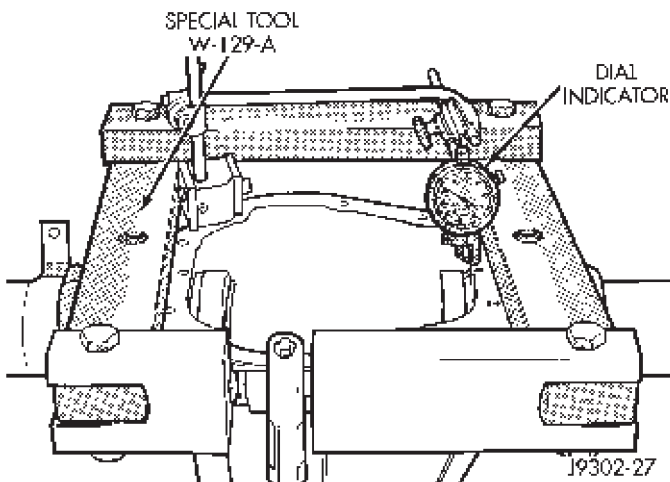
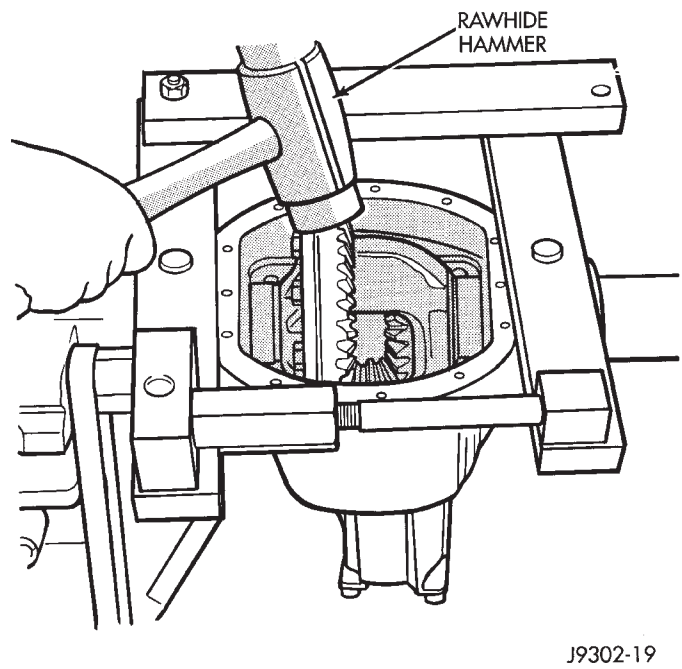

Fig. 62 Spread Differential Housing
Fig. 63 Differential Installation
(1) Position Spreader W-129-A with the tool dowel pins seated in the locating holes (Fig. 62). Install the holddown clamps and tighten the tool turnbuckle finger-tight.
(2) Install a pilot stud at the left side of the differential housing. Attach Dial Indicator to housing pilot stud. Load the indicator plunger against the opposite side of the housing (Fig. 62) and zero the indicator.
(3) Separate the housing enough to install the case in the housing. Measure the distance with the dial indicator (Fig. 62).
(4) Remove the dial indicator.
(5) Install case in the housing. Tap the differential case to ensure the bearings are fully seated (Fig. 63). Remove the spreader.